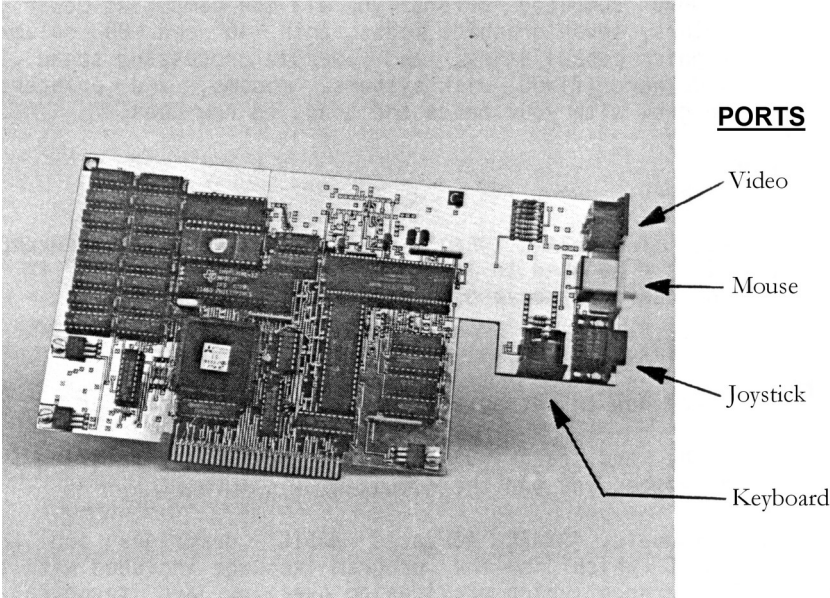

Figure 2 - The 9640 System Board (removed from clamshell case). Ports are at the rear of the board.
Figure 2 shows a top view of the 9640 System Board. Note the locations of the video, mouse, joystick, and keyboard ports at the back (to the right in the photo) of the computer board.
The composite video port (see Figure 2) allows you to connect a composite monitor, or television set with an RF modulator, to the 9640 computer.
The RGB (red, green, blue) analog video port (see Figure 2) allows you to connect a high resolution analog RGB color monitor to the 9640 computer. Monitors of this type will display both 40 and 80 columns of text and high resolution graphics with extreme clarity in full color.
Before inserting the MYARC 9640 Computer Card as in step 5 below, reset the pin located on the board directly in back of the combination video port, from GND to R (RED). See Figure 2, page 7. Also refer to "Connector Pinouts" (Appendix E).
8. Insert your keyboard, monitor, mouse, and joystick cables into the proper ports at the rear of the 9640 Computer Card. See Figure 2, page 7.